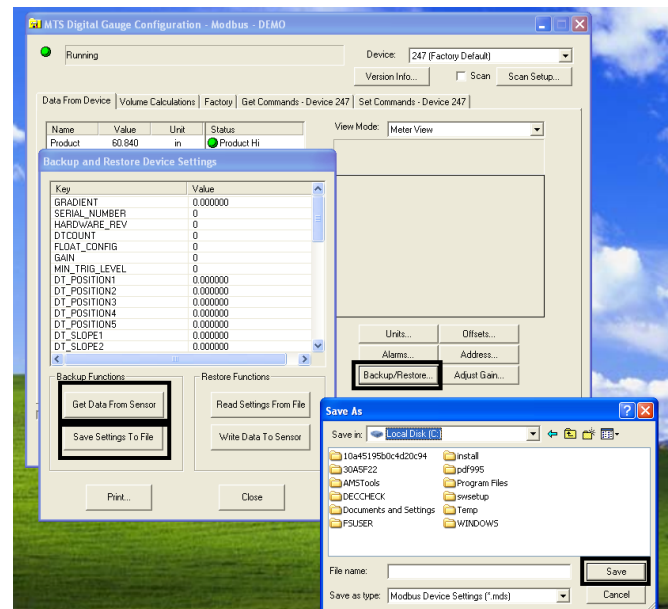

Figure 2. Shortcut creation and Target entry
1. Click the program file icon to launch the configuration setup software. The setup “*Configuration*” window opens (*Figure 2*).